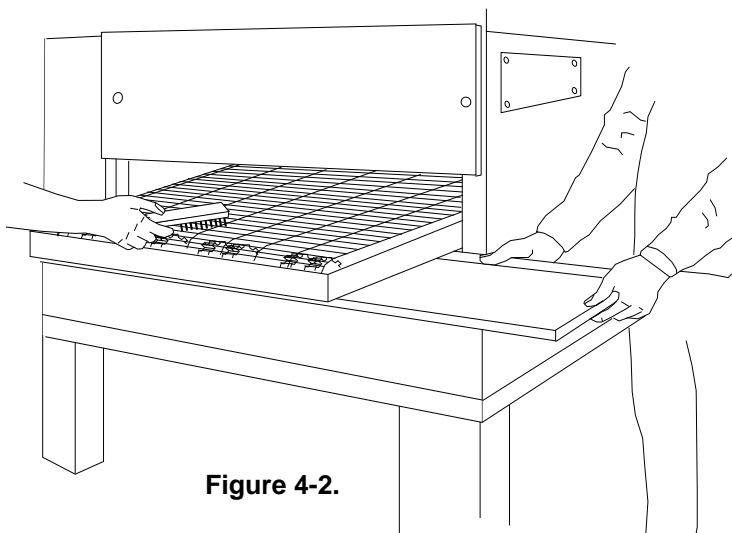

Figure 4-2.
Remove the crumb pan(s) at both ends of the oven. Crumb pans are removed by sliding out as shown in Figure 4-2. Wash the crumb pans in the pot sink.
1. Remove crumb pans, conveyor end stops and conveyor rear stops shown in Figure 4-2.